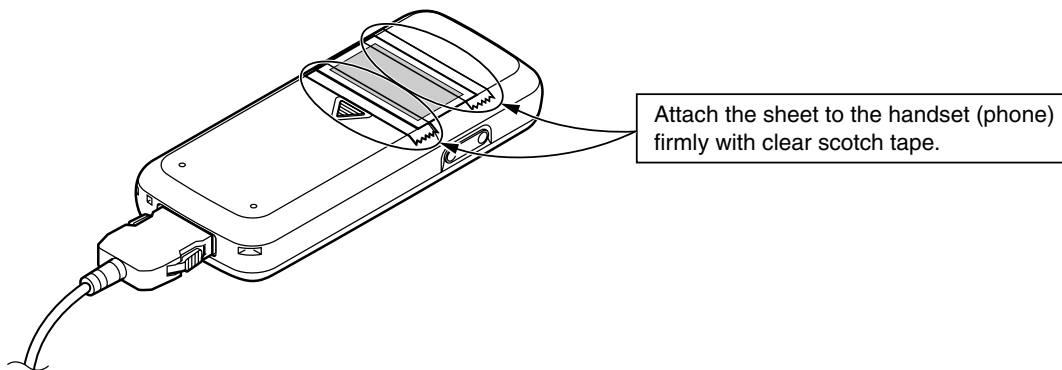

Figure 74
1. Cover the camera section with the black defect correction sheet as shown in Figure 74.